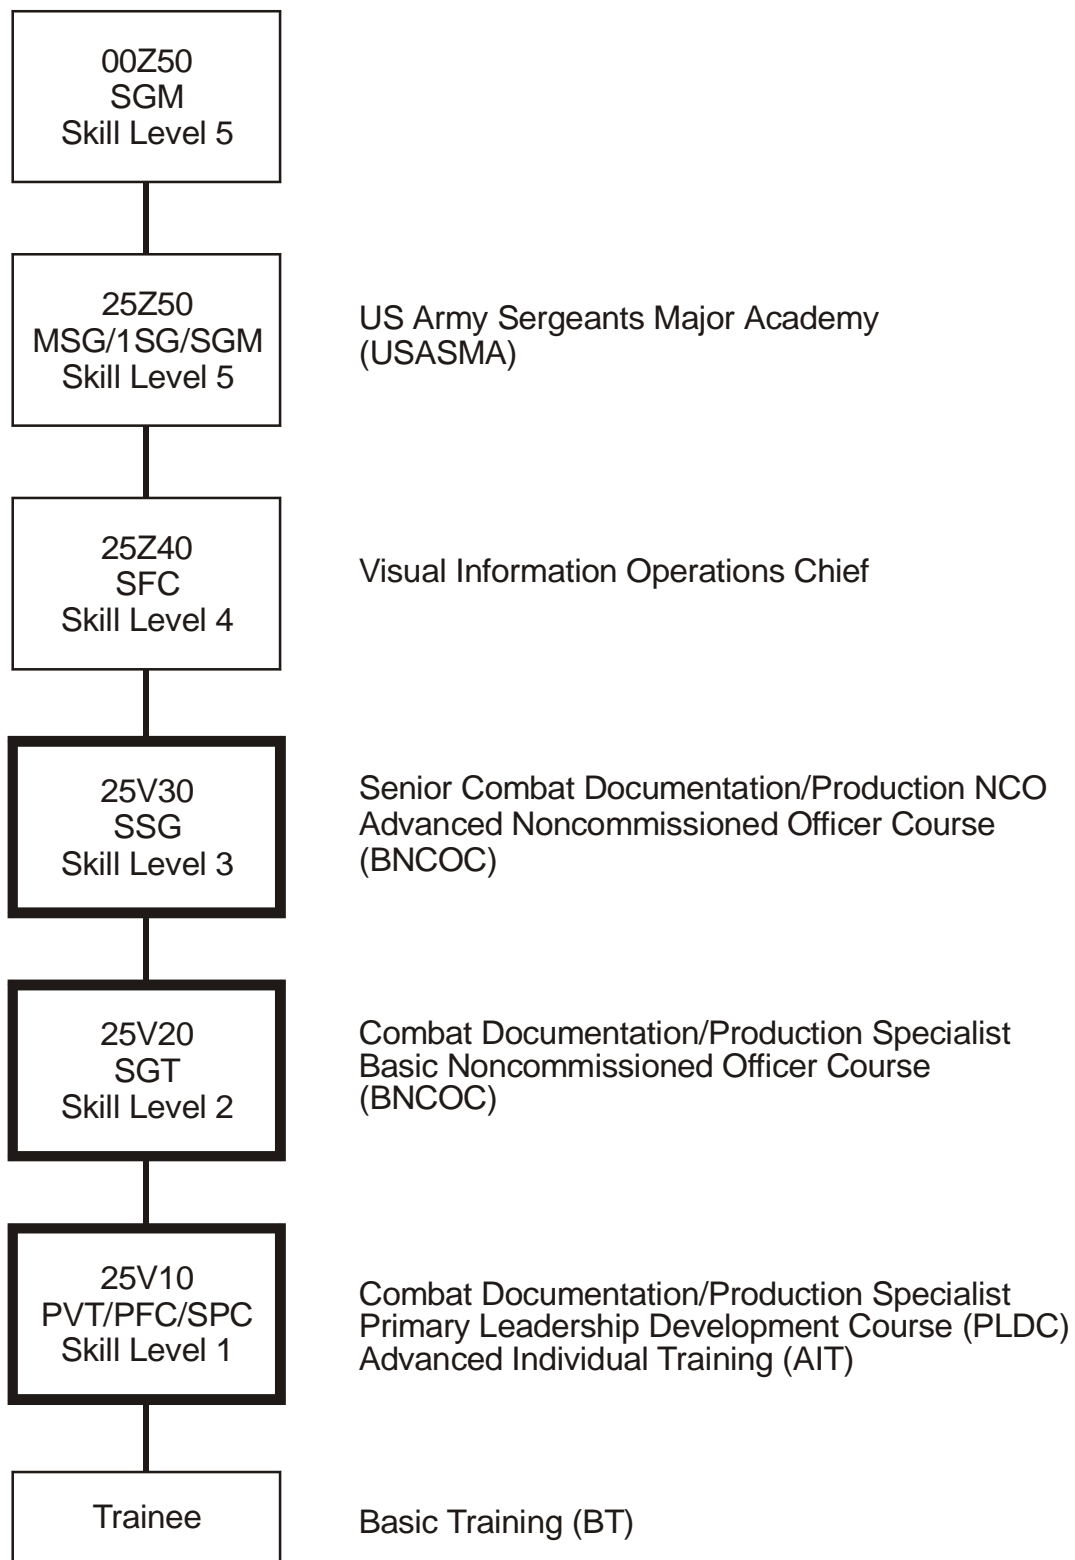

Figure 1-1. Skill and Training Progression, MOS 25V
- b. The career progression chart for MOS 25V is shown in Figure 1-1. It shows the entry-level soldier and the path he must follow to SL5. Ther are no decision points for the 25V soldier.